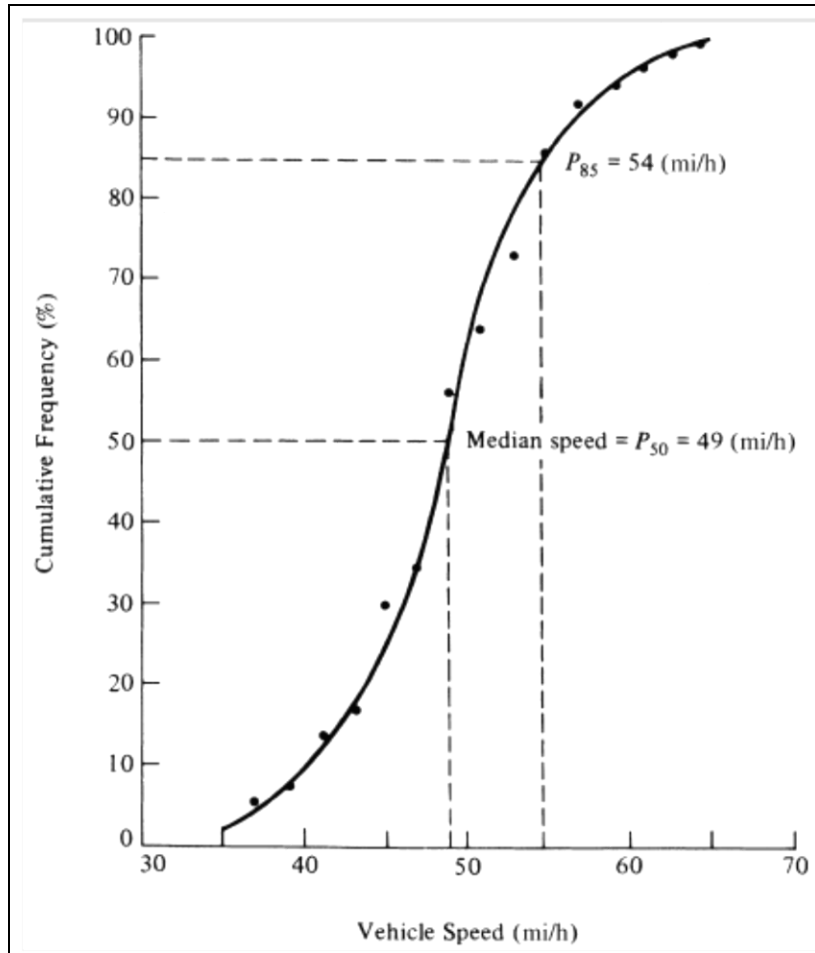

Fig.5 Cumulative Distribution.
Fig.5 shows the cumulative frequency distribution curve for the data given. In this case, the cumulative percentages in column 6 of Table (3) are plotted against the upper limit of each corresponding speed class. This curve, therefore, gives the percentage of vehicles that are traveling at or below a given speed.
- The median speed is obtained from the cumulative frequency distribution curve (Fig. 5) as 49 mph, the 50th-percentile speed.
- 85th-percentile speed is obtained from the cumulative frequency distribution curve as 54 mph (Fig. 5).